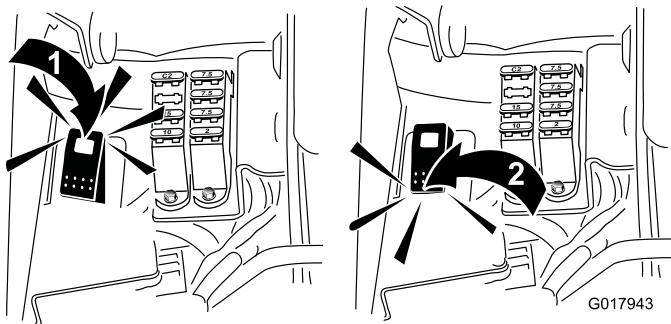

Figure 53
5. Switch the Backlap Switch to the Reverse (R) position (Figure 53).